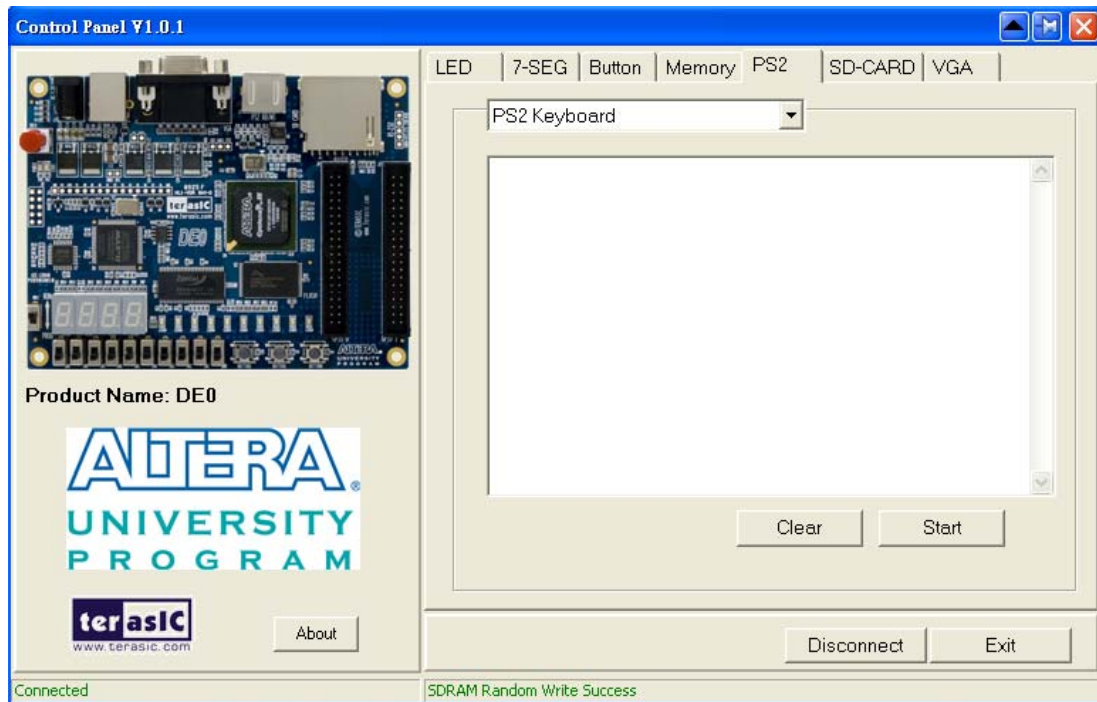

Figure 3-8. Reading the PS2 Keyboards
1. Choosing the **PS2** tab leads to the window in Figure 3-8.